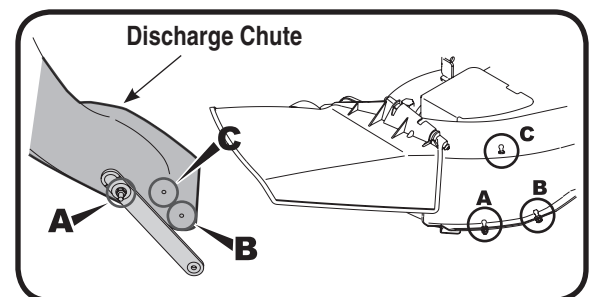

Figure 23
The retainer strap is fitted at position A on the discharge chute. However, on older models of tractors, you will have to change the position of the strap depending on the location of the grass catcher pin on the deck. Remove the retainer strap from position A on the discharge chute to position B or C corresponding to the position of the grass catcher pin at A, B or C on the deck. See Figure 23.
4. You will then need to position the retainer strap on the discharge chute to correspond with the hole and pin. See Figure 23 for retainer strap positioning.
NOTE: *The retainer strap is fitted at position A on the discharge chute. However, on older models of tractors, you will have to change the position of the strap depending on the location of the grass catcher pin on the deck. Remove the retainer strap from position A on the discharge chute to position B or C corresponding to the position of the grass catcher pin at A, B or C on the deck. See Figure 23.*